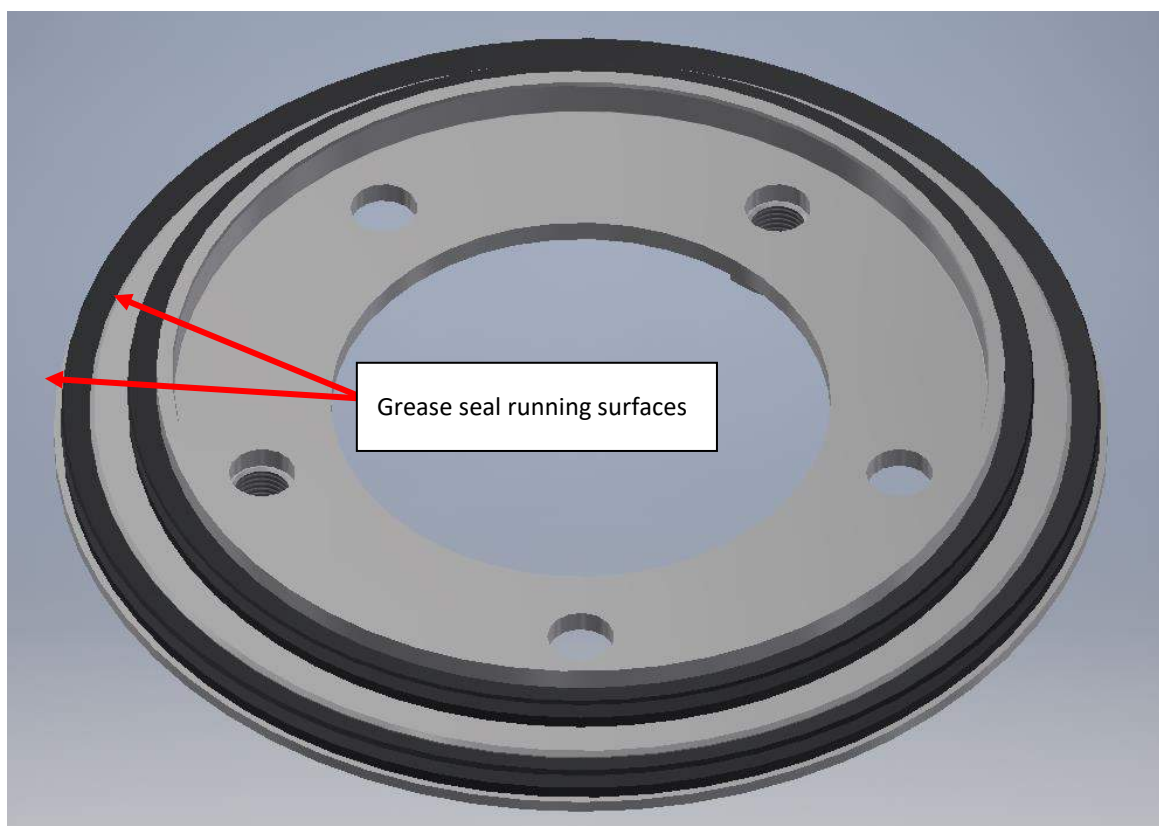

Figure 70
12. Apply high/extreme temperature grease/lubricant (Must be Viton and NBR compliant) (figure 70) **Note : This lubricant must not have properties that degrade the nitrile/viton v-seals and shaft seal**